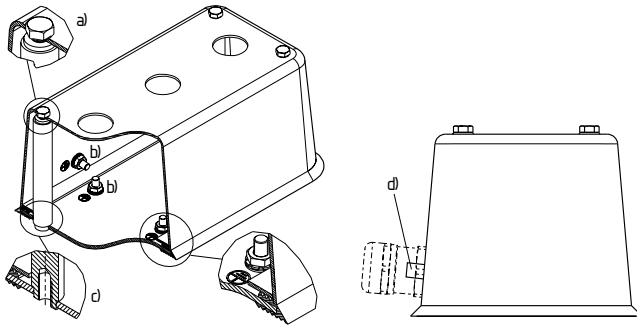

Fig. 1: Assembly of the enclosure Fig. 2: PA connection to enclosure
1. Realise a connection, one per conductor, between the provided earthing screw (Fig. 1) at the enclosure cover and the enclosure bottom.
4. The enclosure must be integrated in the equipotential bonding conductor system with the free earthing screw to EN 60079-14 (ABNT NBR IEC 60079-14) (Fig 1).